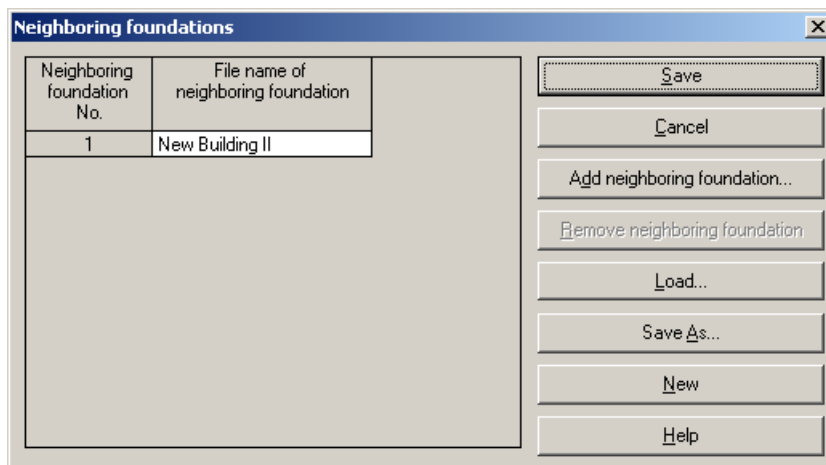

Figure 9-35 "Neighboring foundations" menu
- Choose "Neighboring foundations" command from "Data" menu from *ELPLA-Data* (Figure 9-35)